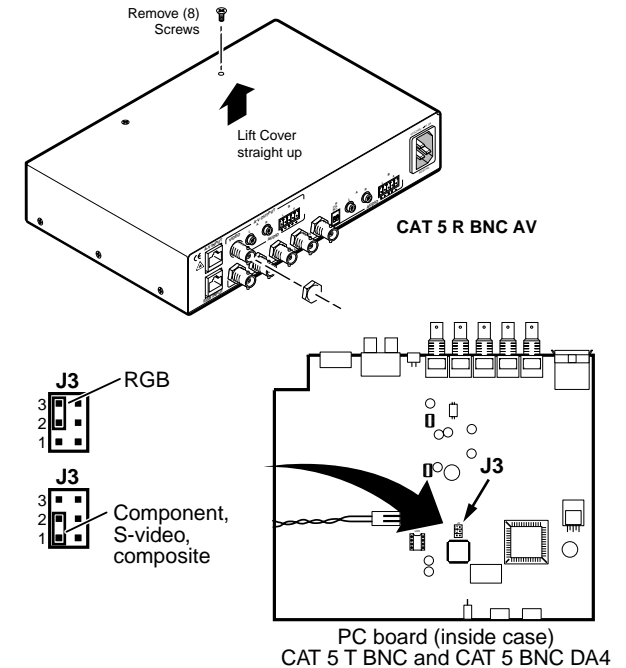

Figure 2-1 — Jumper configuration
1. Remove the three screws on each side and the two screws on top of the cover (figure 2-1).